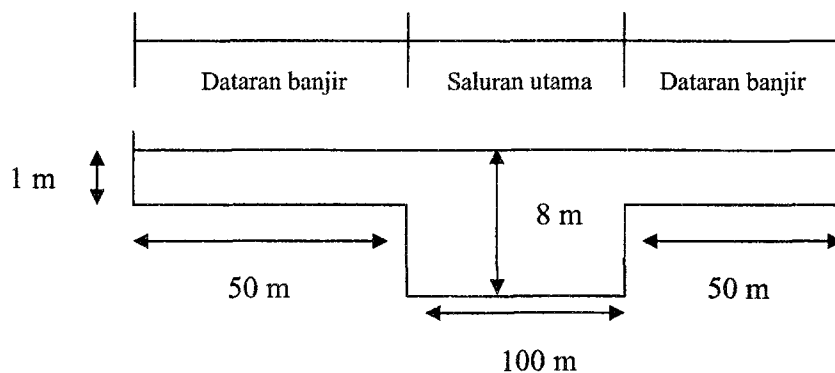

Figure 2 (Rajah 2)
3. [b] Figure 2 shows flow in Sg Muda during flood of 6th October 2003 at a flow discharge of  $1340 \text{ m}^3/\text{s}$ . If the Manning roughness coefficient for the main channel is  $0.03$  and the flood plain  $0.05$ , calculate the channel slope to carry the flood discharge.